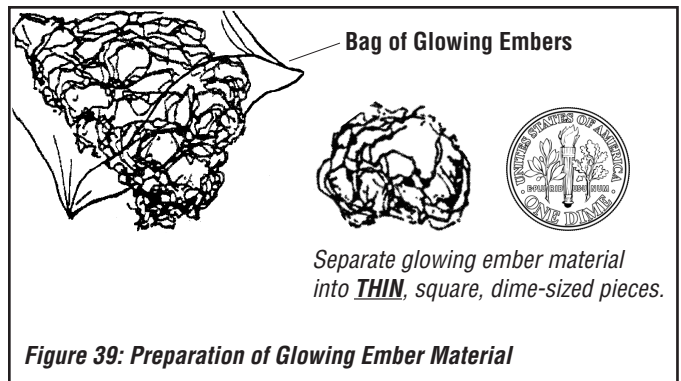

Figure 39: Preparation of Glowing Ember Material
- a) Separate some of the glowing ember material into pieces **about the size and thickness of a dime** (see **Figure 39**). Keep the pieces fluffed up, not matted.